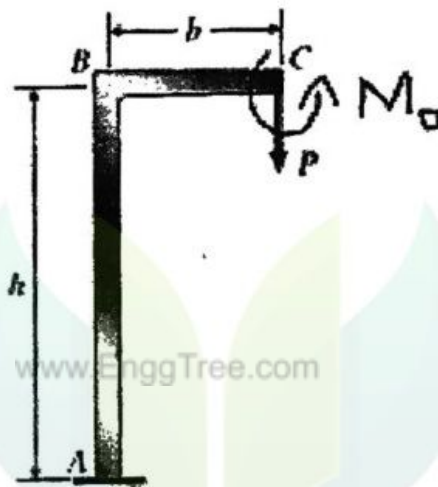

Fig. 5
- (b) The frame ABC supports a concentrated load P at point C. Members AB and BC have lengths h and b , respectively (as shown in fig. 5). Determine the vertical deflection and angle of rotation of the frame. (Use base form or modified form as convenient).